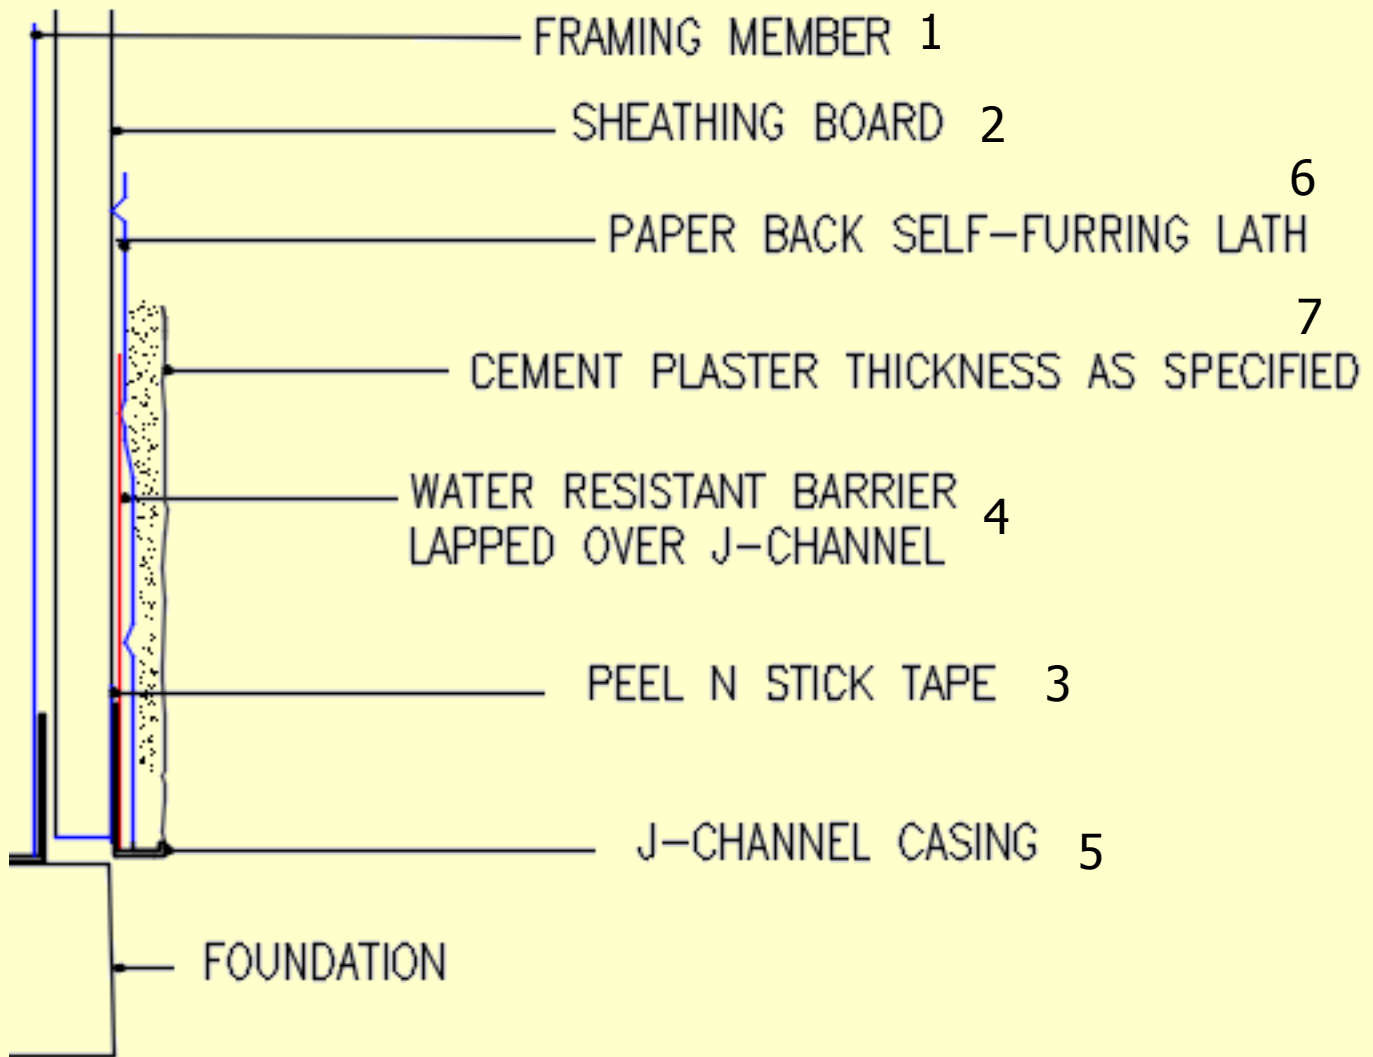

## Figure 2 – Wall Section
- Refer to Figure 2 for the Wall Section Configuration